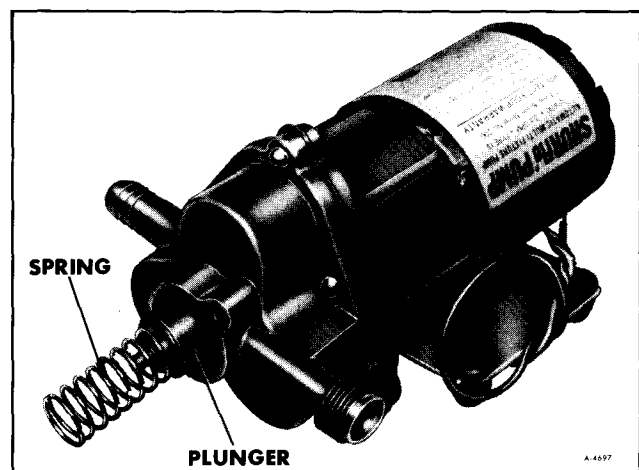

Figure 26—Switch Cap Removed
2. Spring and plunger will drop off (figure 26).
10. Place plunger over rubber diaphragm and spring over plunger (figure 26).